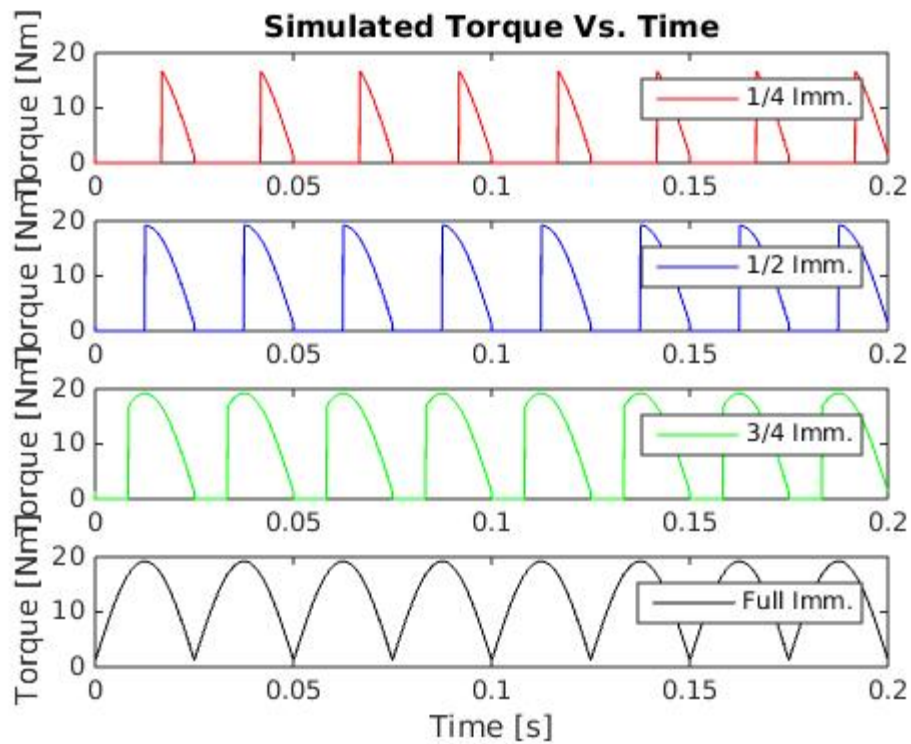
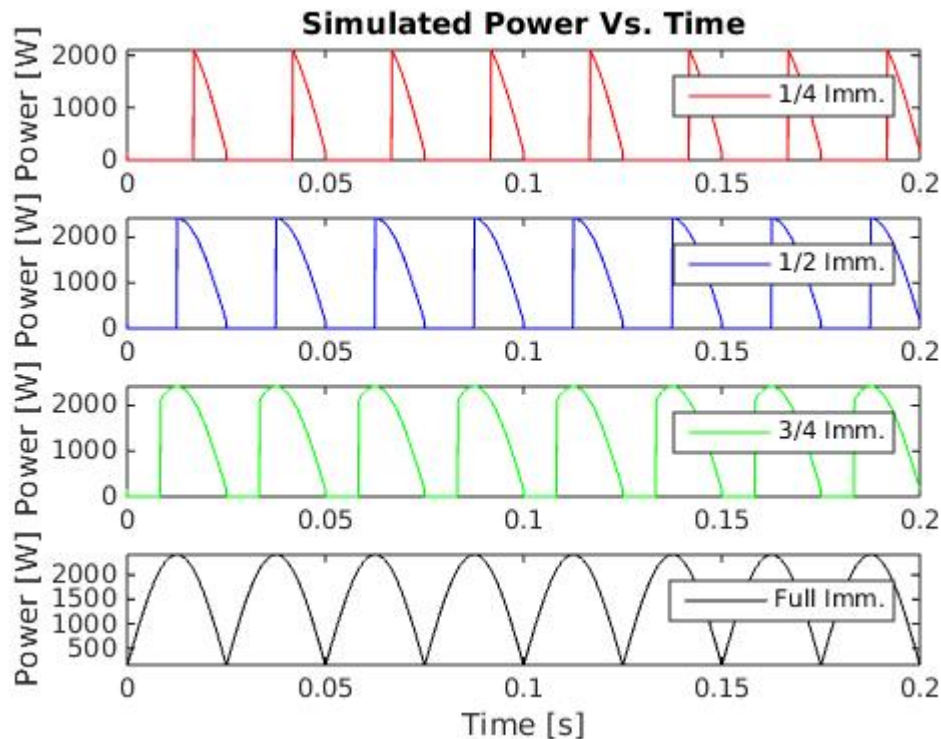

Figure 6: Simulated Torques for all Immersions with Time
Figure 7: Simulated Power for All Immersions with Time
- Torque and power respectively for quarter immersion are given in figure 6 and figure 7
- Torque and power respectively for half immersion are given in figure 6 and figure 7
- Torque and power are shown respectively for full immersion in figure and figure 7